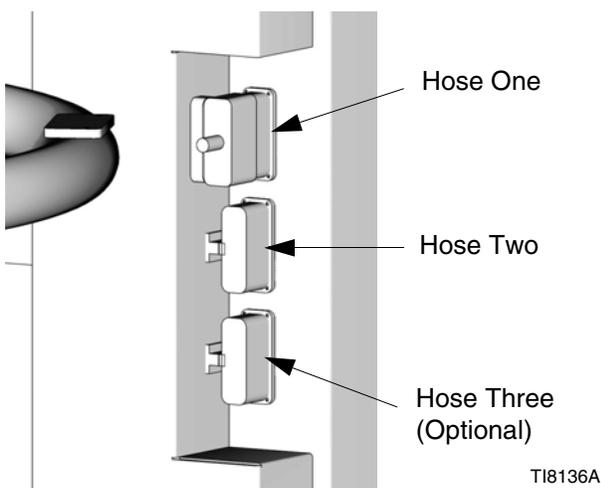

FIG. 4: Rear View of Electrical Control Panel
1. Securely tighten the 16-pin electrical connectors on long heated hose leads into 16-socket receptacles located on the back of the electrical control panel. See FIG. 4.